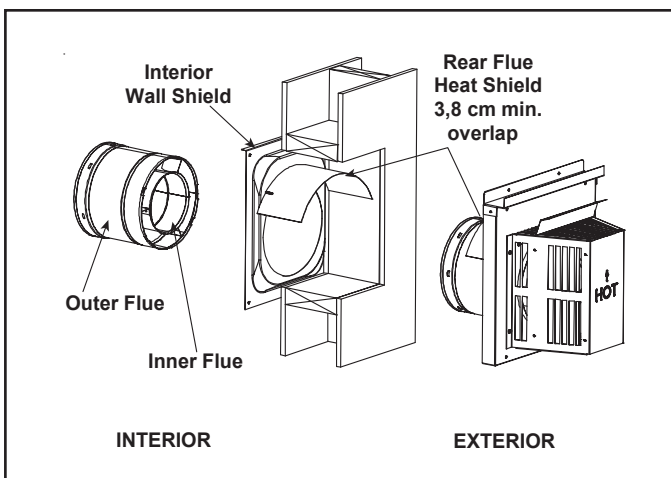

Figure 10.12 Venting through the Wall
- **DO NOT** remove the heat shields attached to the wall shield firestop and the horizontal termination cap (shown in Figure 10.12).
There are two sections of the heat shield. One section is factory-attached to the wall shield firestop. The other section is factory-attached to the cap. See Figure 10.12.